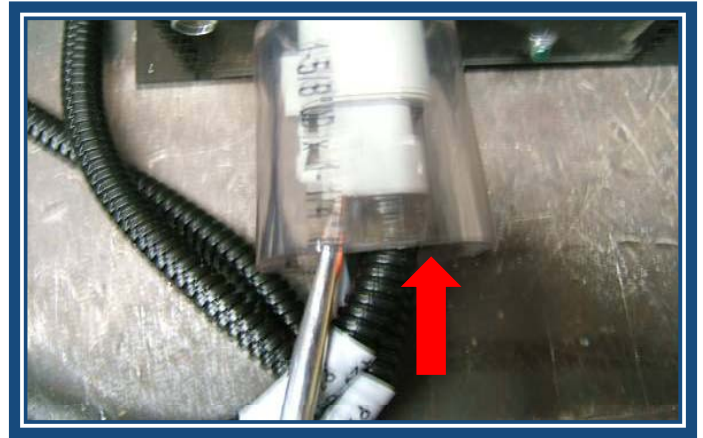

Figure 10
**Step 10:** Connect the Deutsch connector to the Trail Charger. It may be necessary to use a screwdriver to make sure it is properly seated. (See Figure 10)